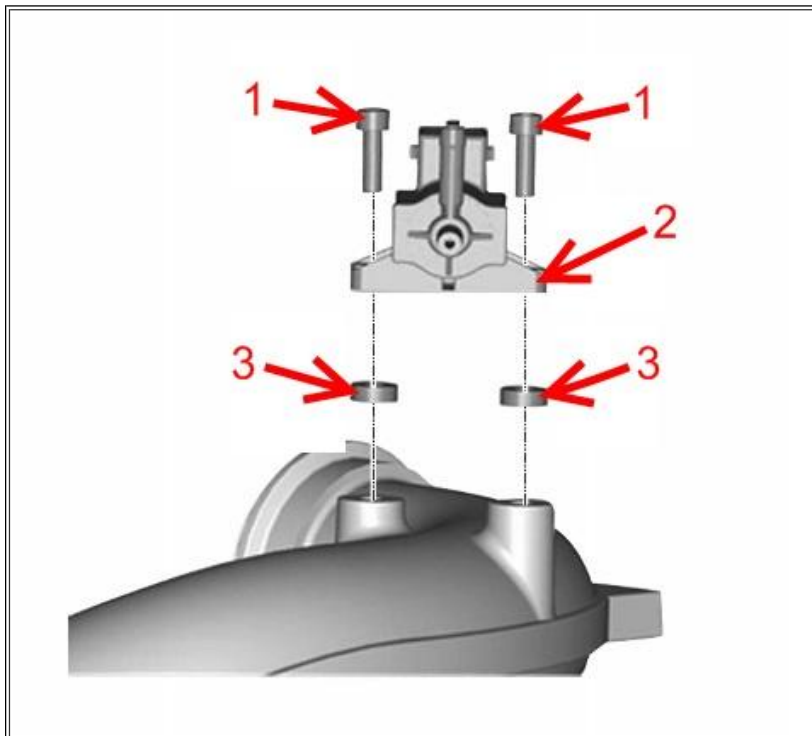

Figure 3: Turbocharger 2 Wastegate Control (TC2WC) Valve
11. Remove two bolts (**Figure 3**, Item 1) and insulators (**Figure 3**, Item 3) from TC2WC valve (**Figure 3**, Item 2) and position for access to High Pressure (HP) turbocharger.